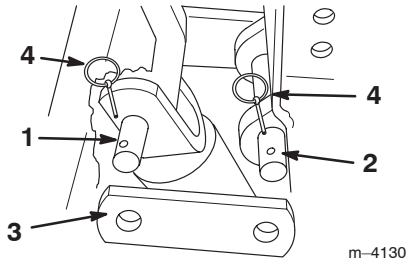
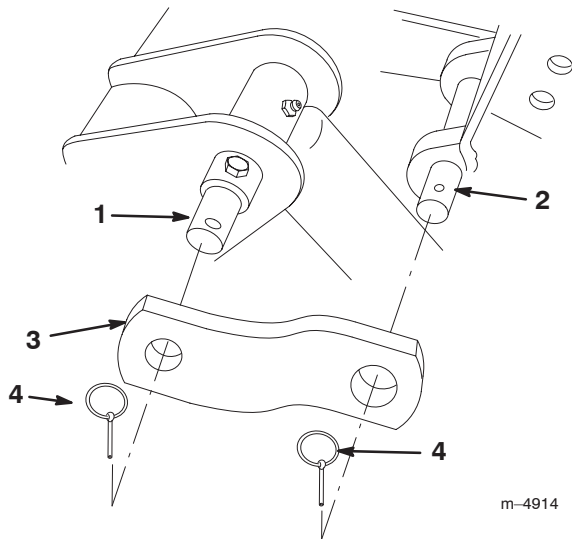

Figure 10
Figure 11
- Slide the two links on each end of the tilt cylinder pin and the backhoe link pin and secure them with two lynch pins (Fig. 10 for Dingo 200/300 Series traction unit or Fig. 11 for Dingo TX traction unit).